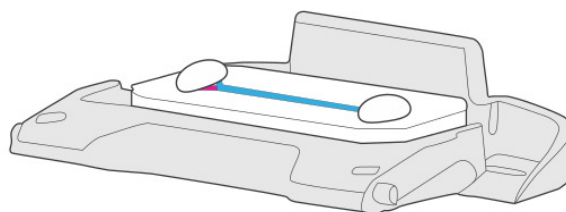

Figure 7 Chip with Hepatocyte Overlay Medium covering ports
3. Gently pipette 200 μ L of the cold Hepatocyte Overlay Medium using cold tips to the top channel of each chip, leaving droplets of Hepatocyte Overlay Medium covering both the inlets and outlets (see Figure 7).